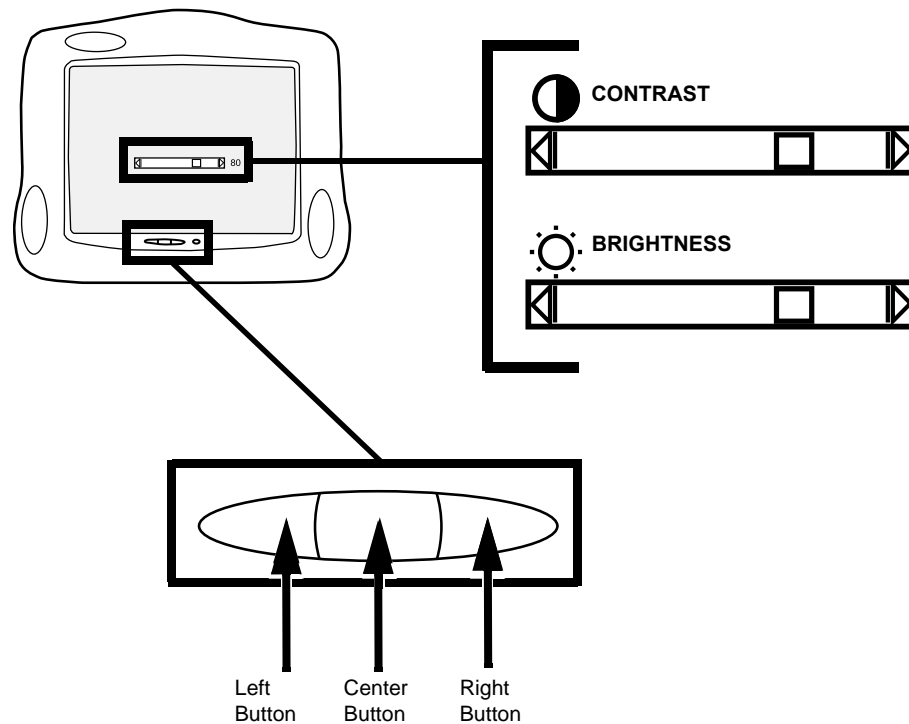

Figure 6-1 Adjust Contrast and Brightness
- 1.) Press Left button on the display monitor once (see Figure 6-1 "Adjust Contrast and Brightness" on page 6-5).
The amount of contrast is shown on a slider on the screen (see Figure 6-1 "Adjust Contrast and Brightness" on page 6-5).
- 1.) Press the Left button on the display monitor twice (see Figure 6-1 "Adjust Contrast and Brightness" on page 6-5).
The amount of brightness is shown on a slider on the screen (see Figure 6-1 "Adjust Contrast and Brightness" on page 6-5).